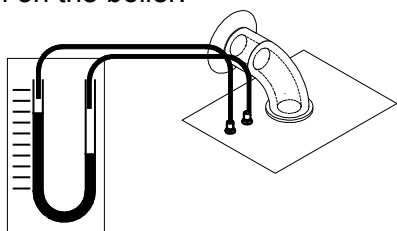

Figure 4
- 1) Remove the caps of the pressure test points located on the top of the boiler and connect a differential pressure gauge (Figure 4).